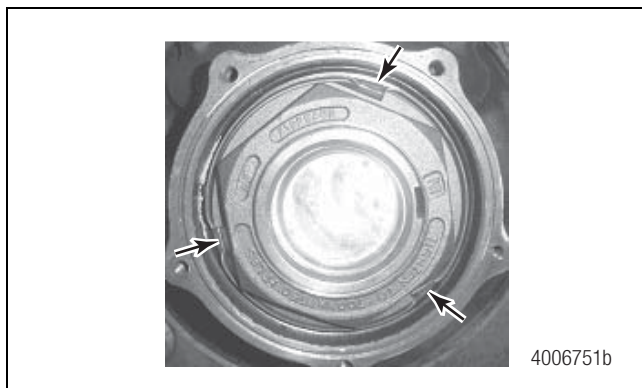
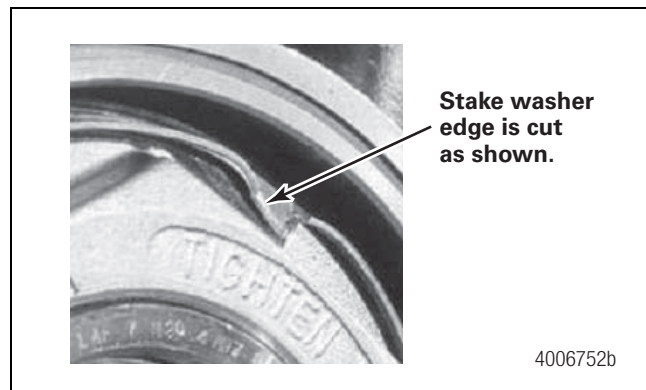

Figure 4.45
Figure 4.46
8. Use a hammer and staking tool (part number AM21225831) to stake the stake washer to the spindle nut in **three** positions. Figure 4.45 and Figure 4.46.